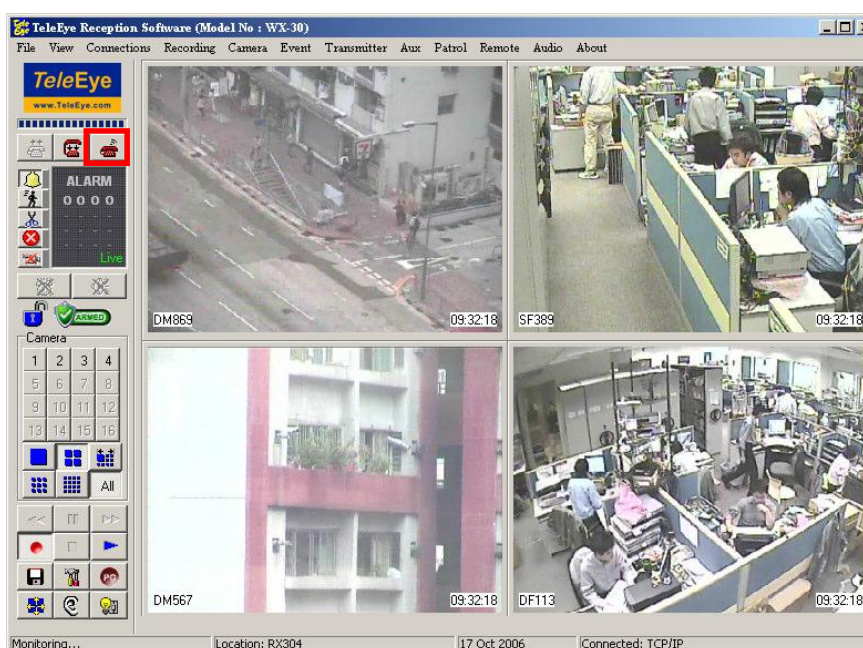

Fig 8.2.4h
Step 8 : Click [Alarm Standby]  icon on the main panel as shown on Fig 8.2.4h.